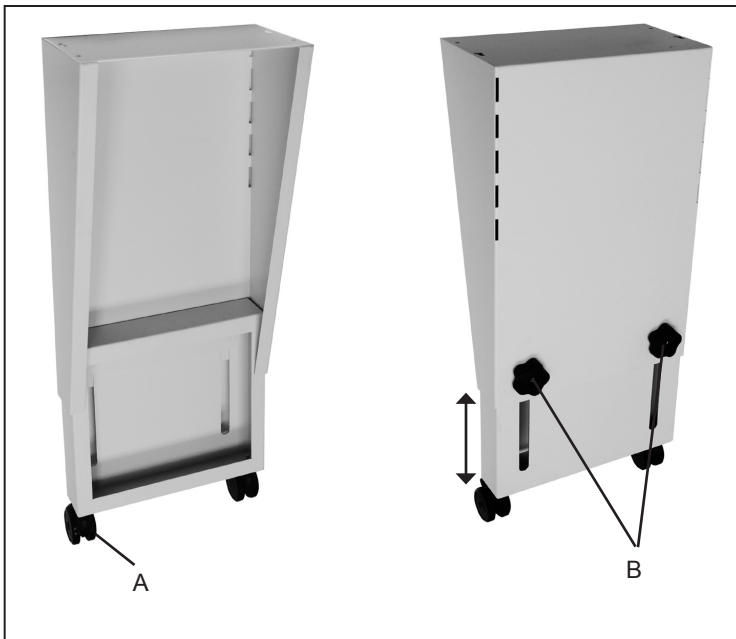
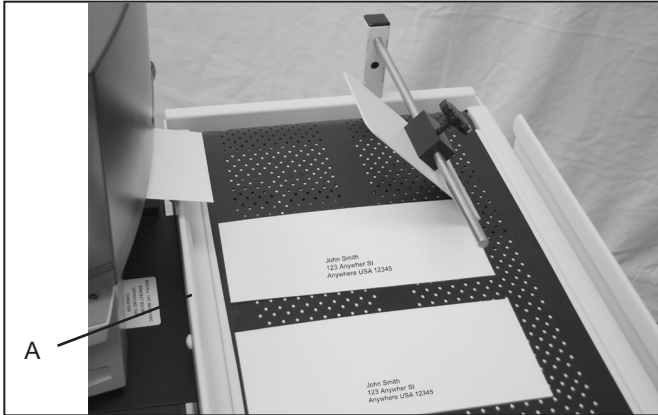

Fig 1
Fig 16a - Right angle printer setup
1. Install 2 swivel casters on each of the leg assemblies (Fig 1 item A). Secure casters with hex nuts.
2. To pre-adjust leg assemblies to proper length, measure the distance from the floor, to the exit surface of the delivery device (i.e. printer). Loosen the black hand wheels (Fig 1 item B) and adjust leg assembly until overall length, including casters, is about 7 inches less than the measurement you just obtained. Tighten hand wheels and repeat procedure for other leg assembly.
2. The top of the front guide rail (Fig 16a item A), should be positioned about 1 inch below the exit surface of the delivery device (i.e. printer). If height adjustment is necessary, have another person support the weight of the conveyor while you carefully loosen the black hand wheels (Fig 1 item B) and adjust the height of the conveyor leg assemblies. Retighten to secure in place.